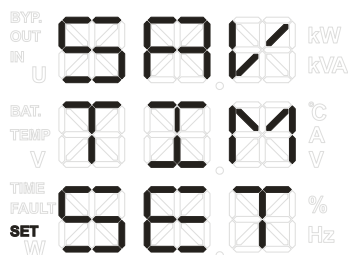

Figure4-12 Time setting confirm
Time setting confirm page: after setting hour/minute/second, it will enter confirm page. In the page, **SAV TIM SET** flickers. If you confirm the setting, press  $\text{①}$  (ON) button more than 1s, exit the setting page, the setting succeeds. If you do not confirm the setting, 20s later, it will exit the setting page automatically. Corresponding LCD display is as shown in Figure4-12.